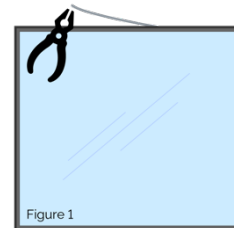
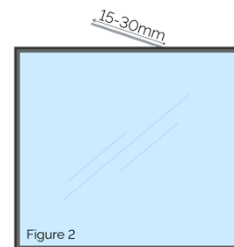

Figure 1
Figure 2
1. **CUT:** Cut off the capillary tube exposed to the sealant surface of the IGU with diagonal pliers as shown in Figure 1. The remaining length should be 15-30mm as shown in Figure 2.